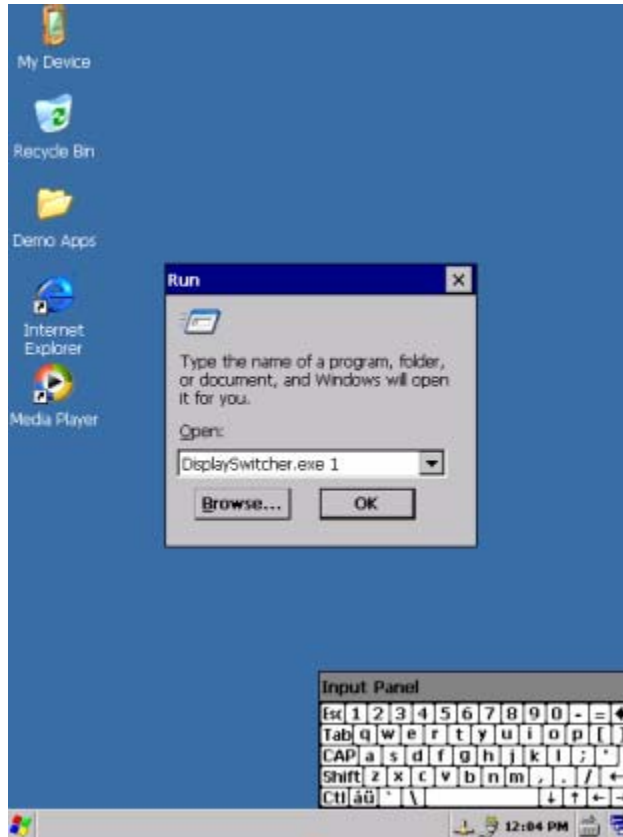

Figure 4.16 Example of an NTSC TV Usage
11. Type "DisplaySwitcher 0" for TVs using PAL format or "DisplaySwitcher 1" for TVs using NTSC format, and then click **OK**. Figure 4.16 shows an example for a NTSC TV.